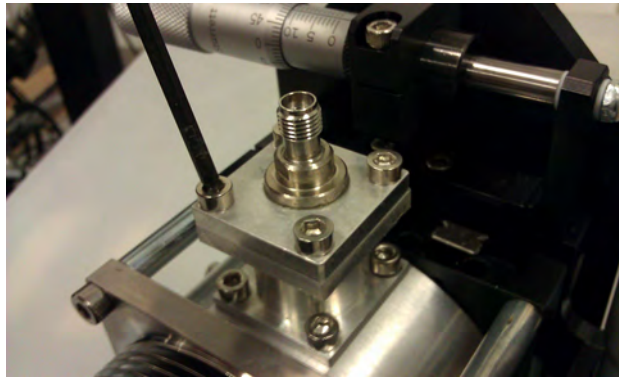

FIGURE 5-16 Remove the top set of four M3 screws
3. Remove the top set of four M3 screws holding the cable feedthrough to the feedthrough tower (FIGURE 5-16).